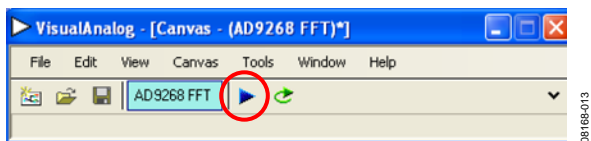

Figure 14. Run Button (Encircled in Red) in VisualAnalog Toolbar, Collapsed Display
5. Click the **Run** button in the **VisualAnalog** toolbar (see Figure 14).